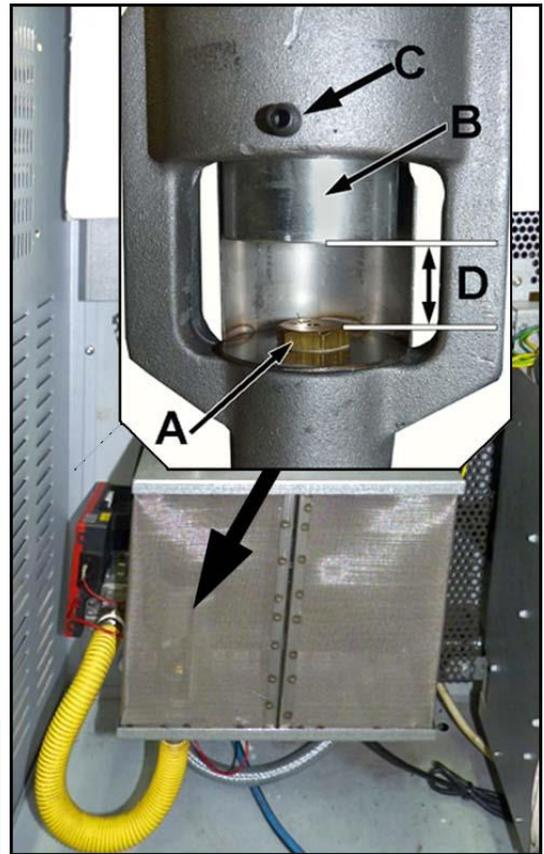

Fig. 5.10
**Adjusting the position of the Venturi (Figure 5.10, Measurement D)**